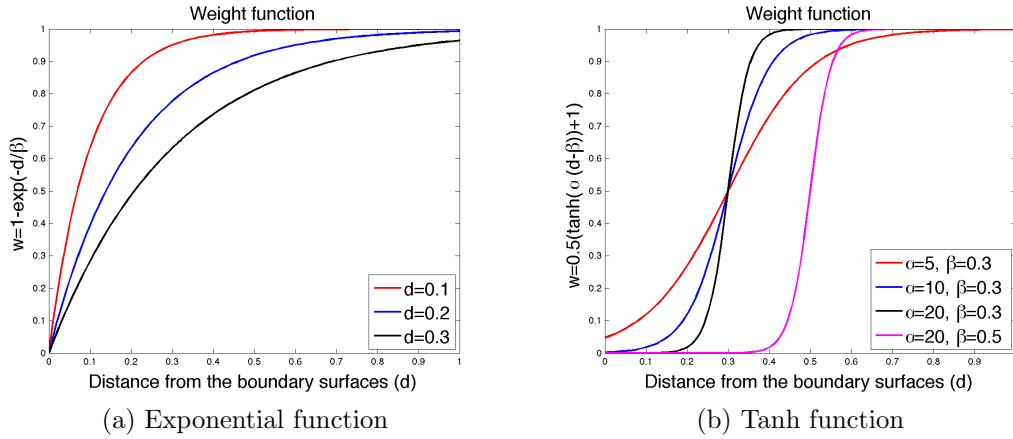

Figure 1: Weight function with different parameters
1. The values of α and β can be changed depending on how much movement the user wants to allow near the boundary surfaces. Figure 1(a) and (b) shows how w changes for different values of α and β .